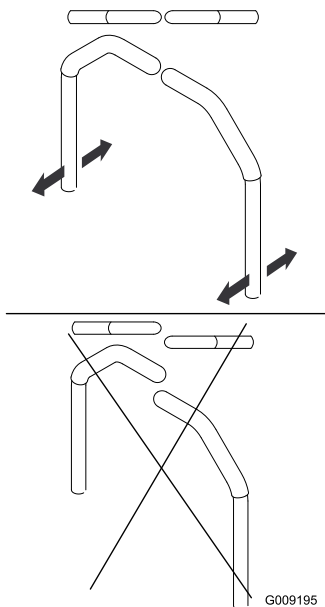

Figure 78
4. Align the levers in the front-to-rear position by bringing the levers together to the NEUTRAL position, slide them until they are aligned, and tighten the bolts (Figure 78).